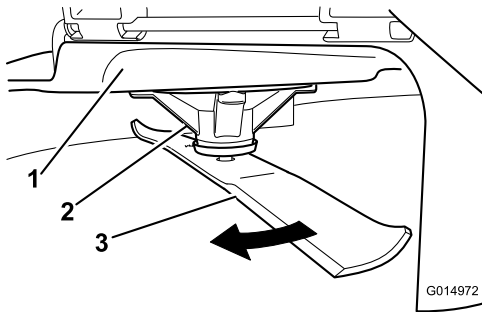

Figure 92
2. While wearing thickly padded gloves, or other adequate hand protection, slowly rotate the blade into a position that allows you to measure the distance between the cutting edge and the level surface the machine is on (Figure 92).